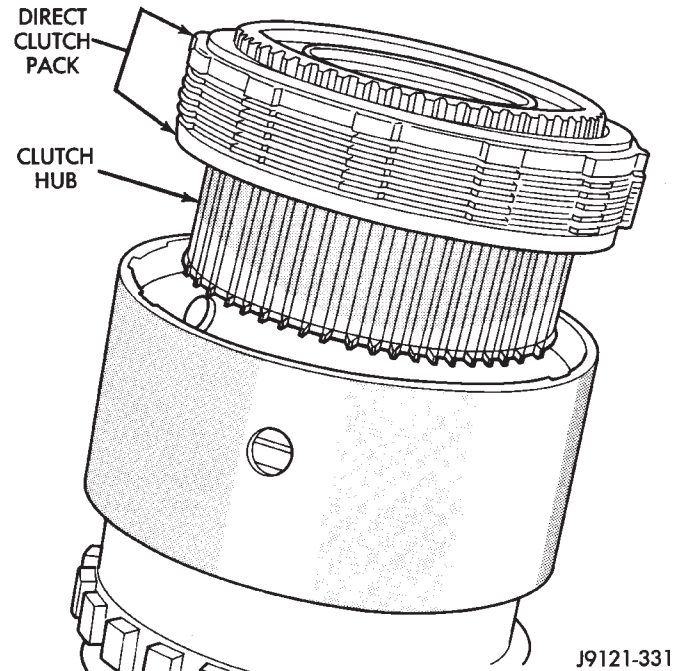

Fig. 341 Installing Assembled Direct Clutch Pack And Hub
(22) Install clutch hub and clutch pack on direct clutch spring (Fig. 341).